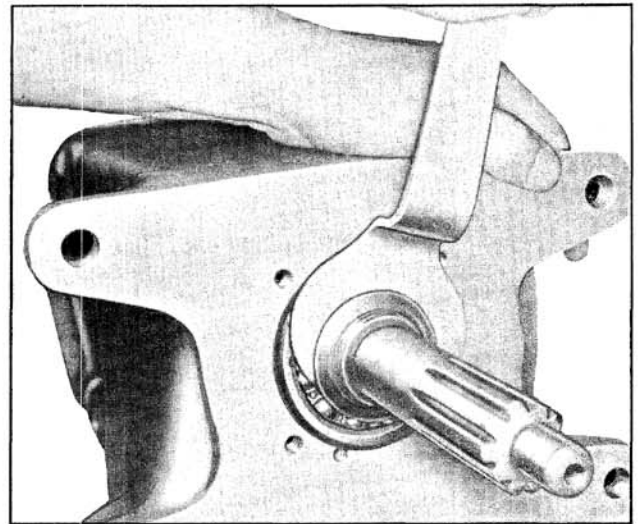

Fig. 7-58 Removing Reverse Shifter Shaft Lock Pin
4. With transmission gears in neutral, drive lock pin from reverse shifter lever boss as shown in Fig. 7-58, and pull shifter shaft out about 1/8". This disengages the reverse shift fork from reverse gear.